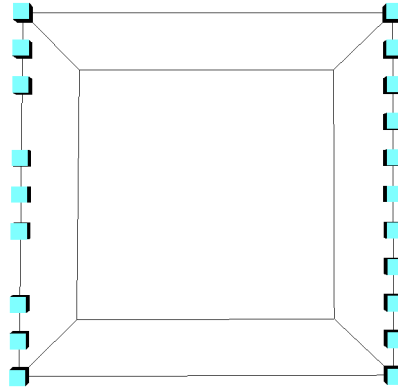

Figure 30. Specified pressure boundaries as seen in Model Viewer.
22. Select **Show|None** and then **Show|Model Features**. In the dialog box that appears, click on **spec. pressure** and then click on the **Show -->** button. Then click on the up arrow next to **Size** a few times. Click on the **Done** button. This has hidden the isosurfaces and shown the locations of nodes that are specified pressure boundaries (fig. 30). (Isosurfaces and boundary nodes can be viewed simultaneously. Hiding the isosurfaces, however, makes the image less cluttered.)